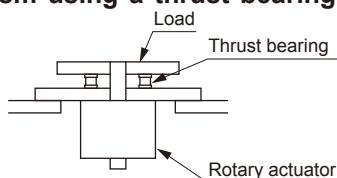

Fig. 1
- The application of loads (thrust load) on the shaft in the axial direction may result in operation failure, and therefore loads must not be applied in this direction. If this is unavoidable, employ a mechanism using a thrust bearing as shown in Fig. 1.